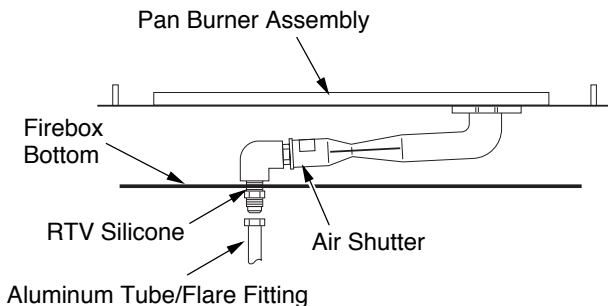

Figure 3 - Removing/Applying RTV Silicone and Locating Air Shutter
1. Inside the control compartment under firebox, locate aluminum tube with flare fitting and adapter fitting on the left side. Loosen flare fitting and disconnect aluminum tube from adapter fitting. Use a 3/4" open end wrench (see Figure 3).
2. Carefully cut away the RTV silicone from the adapter fitting where it passes through the firebox bottom (see Figure 3). Remove adapter fitting from elbow fitting by turning counterclockwise. Use an 11/16" open end wrench.
6. Locate air shutter at end of burner manifold (see Figure 3). Loosen screw and adjust air shutter to fully open position. Retighten screw.
3. Apply RTV silicone to adapter fitting where it passes through the firebox bottom (see Figure 3, page 2).